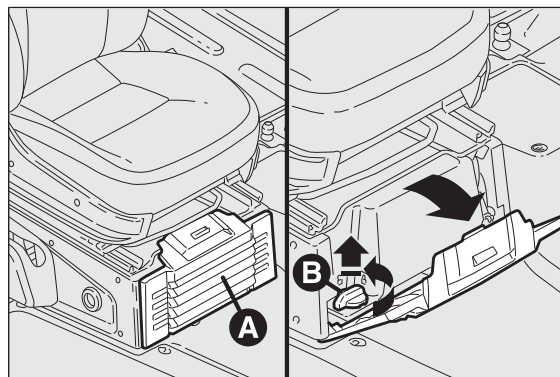
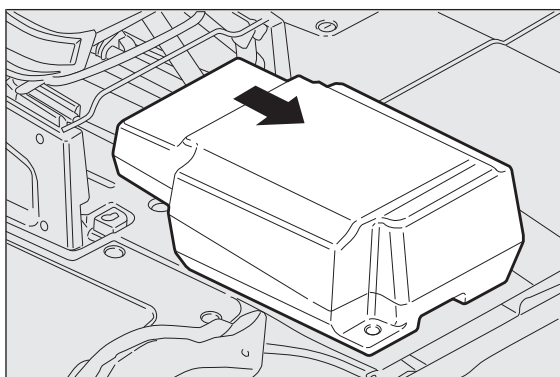

fig. 221
fig. 222
- ❑ Open the flap A and remove it as illustrated in fig. 221;
- ❑ turn retaining knob B anticlockwise and remove it fig. 221 to allow the box to come out fig. 222;